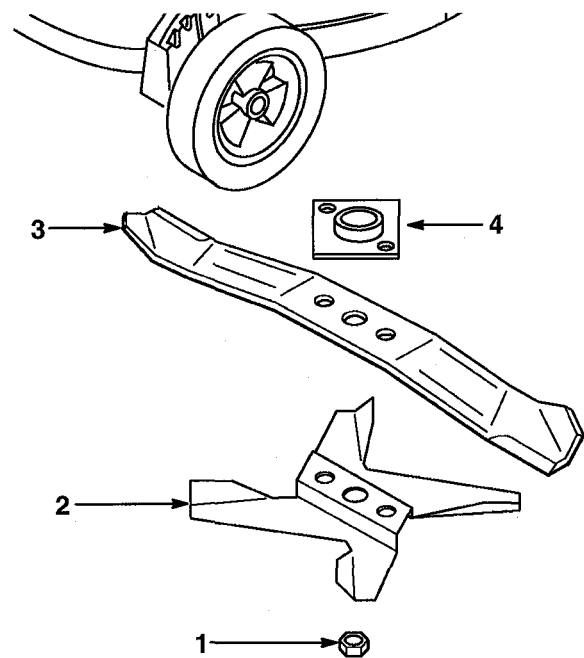

Figure 29
1. Remove blade nut and mulching fan (Fig. 29).
2. Remove blade from blade driver (Fig. 29).
1. Install blade driver onto crankshaft (if removed) (Fig. 29).